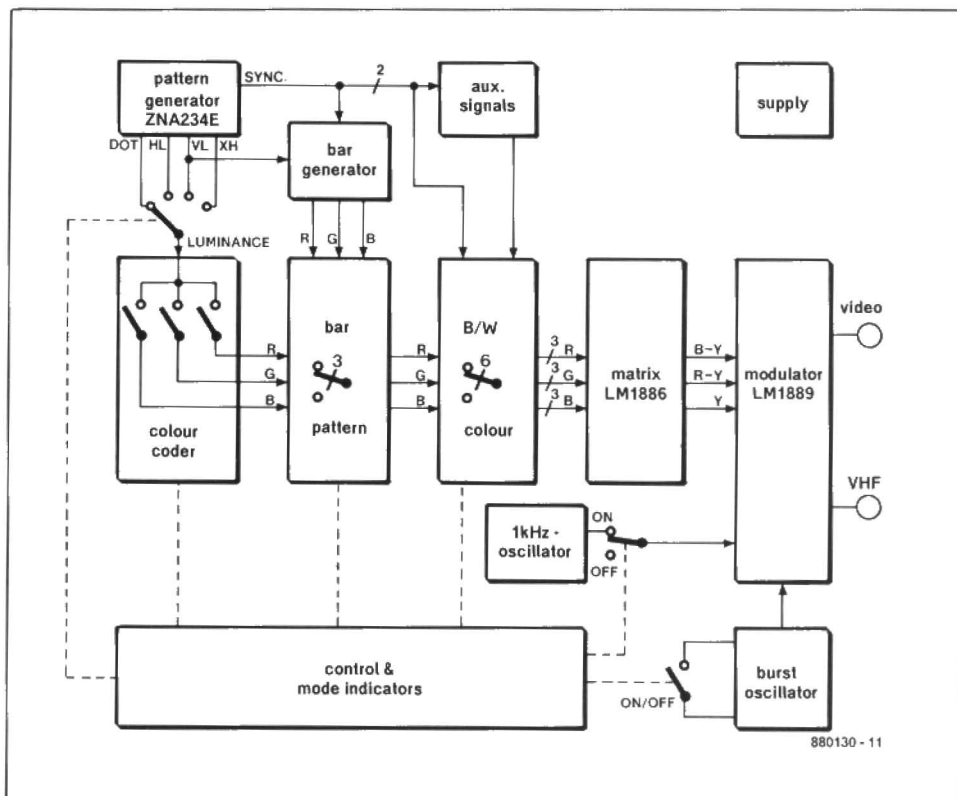

Fig. 1. Block diagram of the test pattern generator.
The general set-up of the pattern generator is shown in Fig. 1. In principle, all patterns originate from the ZNA234E, which supplies the luminance information for a dot pattern (DOT), a cross-hatch pattern (XH), a horizontal line